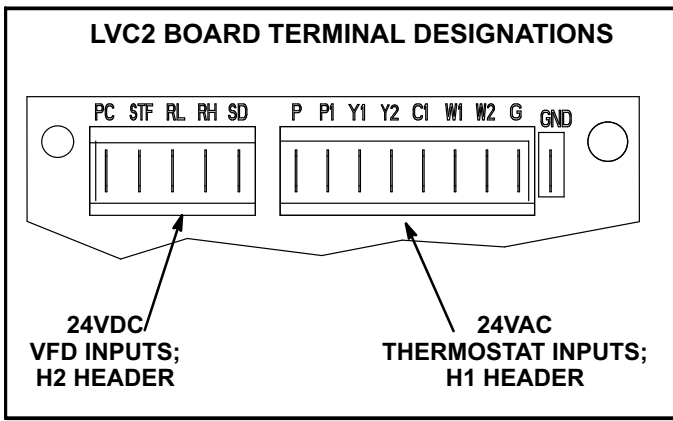

FIGURE 40
- 3- Check for 24VAC signal at the thermostat blower input (G to GND terminal). See figure 40.